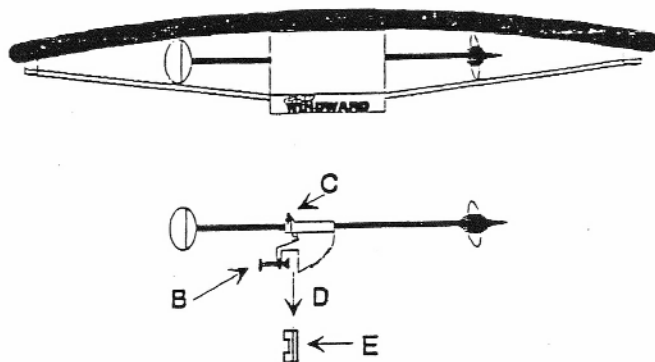
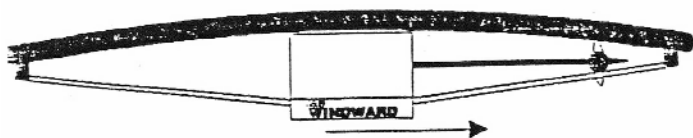

FIGURE 7
FIGURE 8
Step 4. Loosen Tension Screw "C". Rotate transom clamp 90°. Center transom clamps between motor head and prop, tighten tension screw "C" shown bottom of figure 7.
Step 5. We are now ready to install the motor to the "Go Windward" motor mount. Hold the motor horizontally on each side of the transom clamps. Install motor on the backside of the "Go Windward" motor mount. Lower motor mount down onto the wooden transom as illustrated by "D" to "E" in figure 7. Tighten clamps securely. We strongly suggest attaching a safety line from the motor clamps "B" to the hole conveniently drilled in the super structure of the "Go Windward" motor mount. The motor is now installed on the boat in storage position (Top figure 7).
Step 7. To go from the storage position (top figure 7) to a run position (figure 8&9). This procedure should be done in the water and on the boat. We recommend that you practice this procedure several times next to shore.
3. Slide the shaft until the motor head is against the transom clamp (see figure 8). The motor has a tendency to twist. Make sure motor head and prop remain parallel to the tramp. Through the lacing, tighten the tension locking screw.